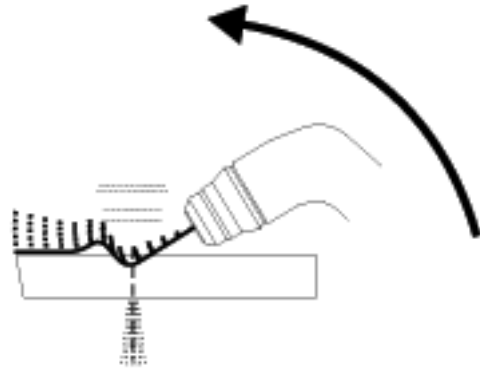

Fig. 5
5. When piercing a thicker sheet of steel (1/4" and greater) hold the torch at approximately a 45 degree angle and gradually roll the torch until it is perpendicular to the work piece (See Fig. 5) If the torch is held perpendicular to the